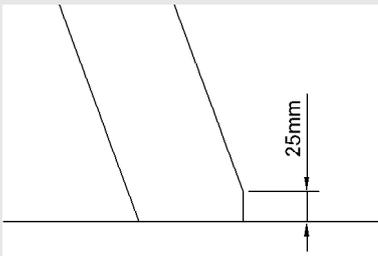

fig 16
13. **Important: Cut the front corners back 25mm** - this can make the stair easier to close and can also prevent damage to the stair if dropped during opening (figure 16).